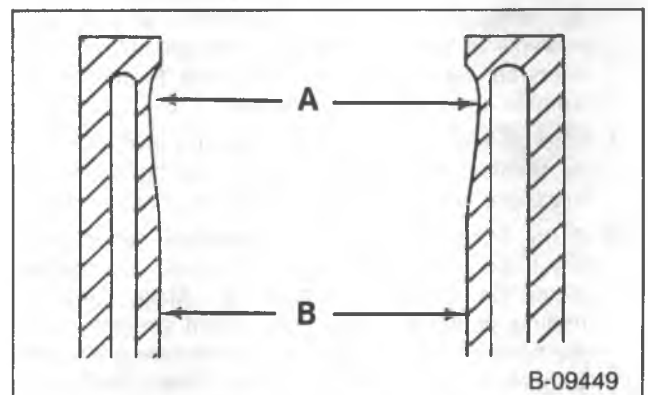

Figure 2—Typical Wear Pattern
2. Refer to figure 2. Measure dimension "A" at 13 mm ($\frac{1}{2}$ -inch) below the head gasket surface. Measure dimension "B" at 100 mm (4-inches) below the head gasket surface.
2. Refer to figure 2. Measure for wear at the top of the bore (point "A"), and at the bottom (point "B").
2. Refer to figure 2. Measure for wear at the top of the bore (point "A") and at the bottom (point "B").